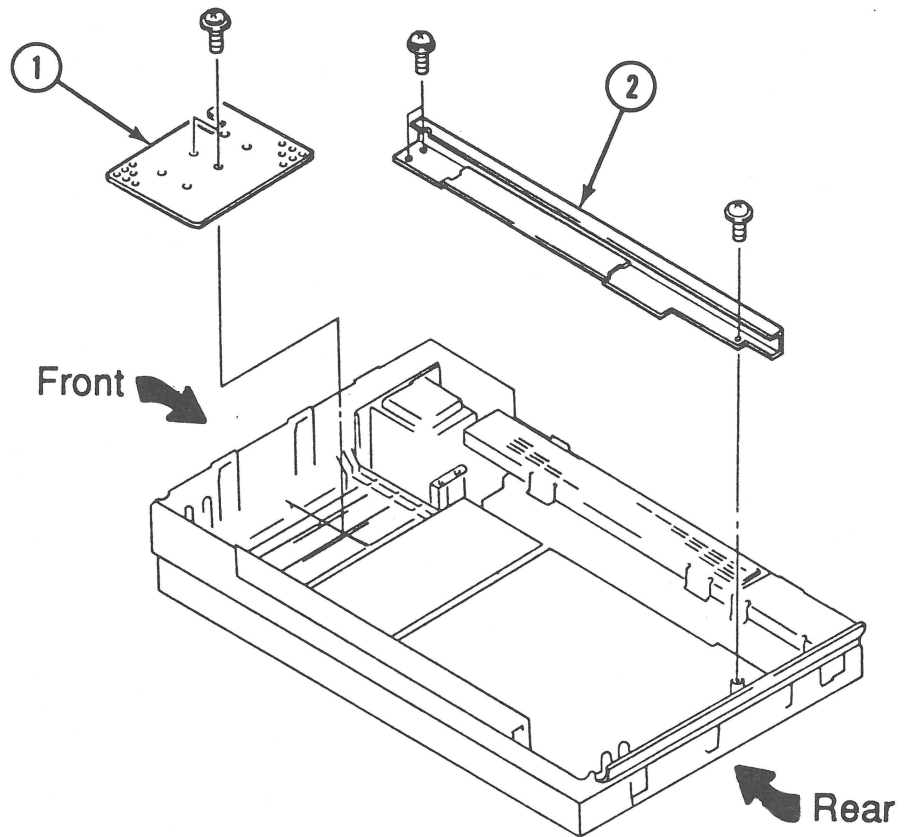

FIGURE 25
8. Replace the left rail (Figure 25, #2) and secure it with the two screws.
9. Replace the inside cover (Figure 25, #1) and secure it with two screws.